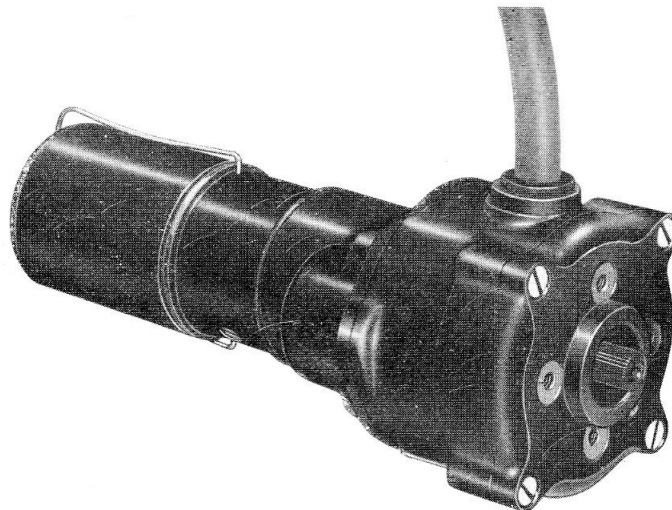

Fig. 1. Type C5517/2 actuator
1. This actuator (*fig. 1*) is generally similar to that described in the main chapter. The rotary movement of the output shaft is limited to 90 deg. by the two internal limit switches.